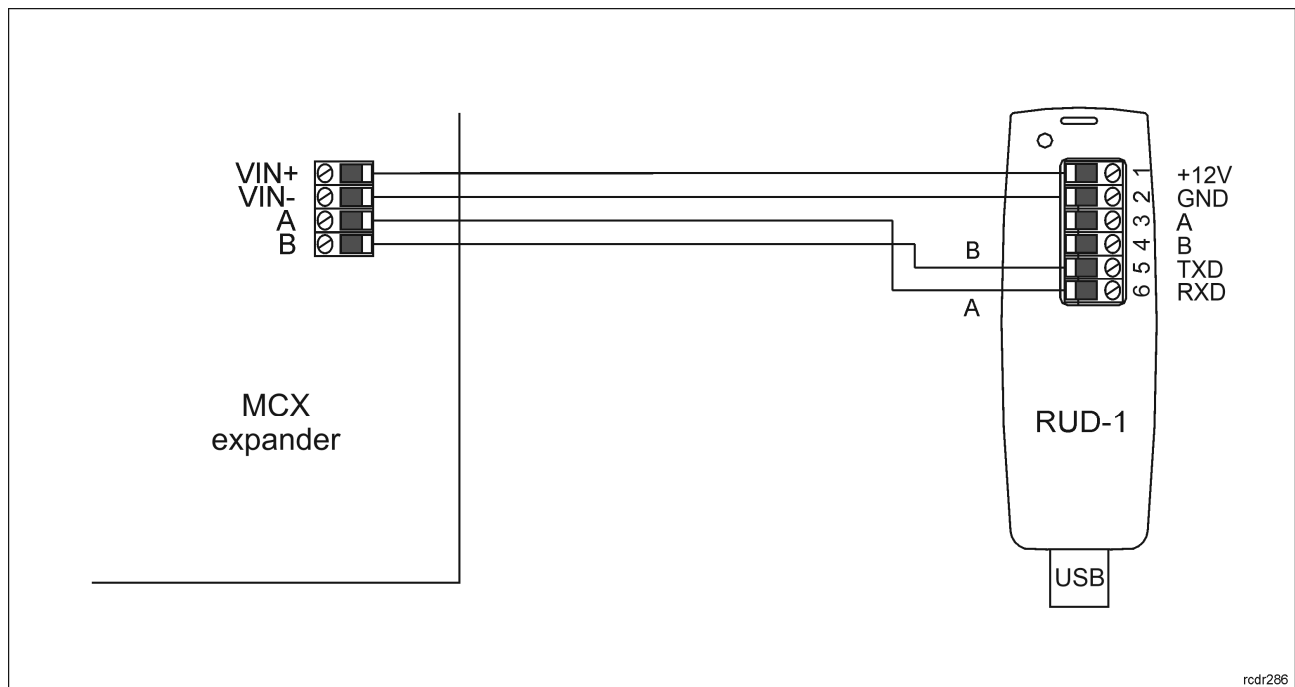

Fig. 8 Connection to RUD-1 interface (firmware update)
1. Connect the device to RUD-1 interface (fig. 8) and connect the RUD-1 to computer's USB port.